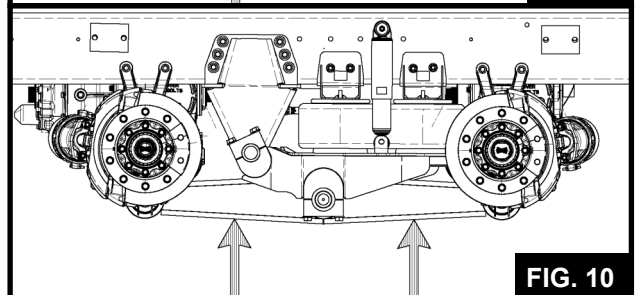

FIG. 10
- 6.6** Support the walking beam being serviced (**See FIG. 10**).